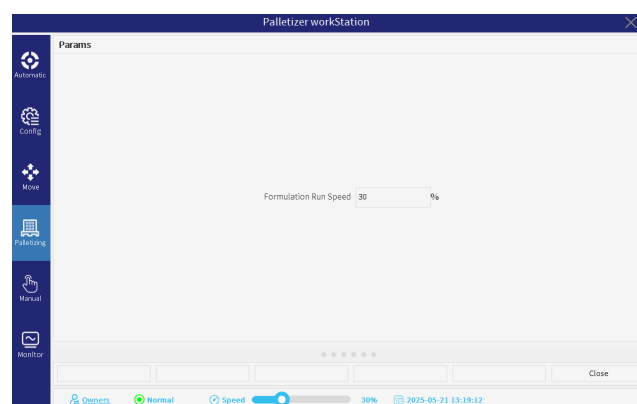

Figure 2-43 : Formulation Parameters
- **Formulation Parameters:** to set the running speed of the current formulation in Figure 2-43 , with a range of 2-100%.